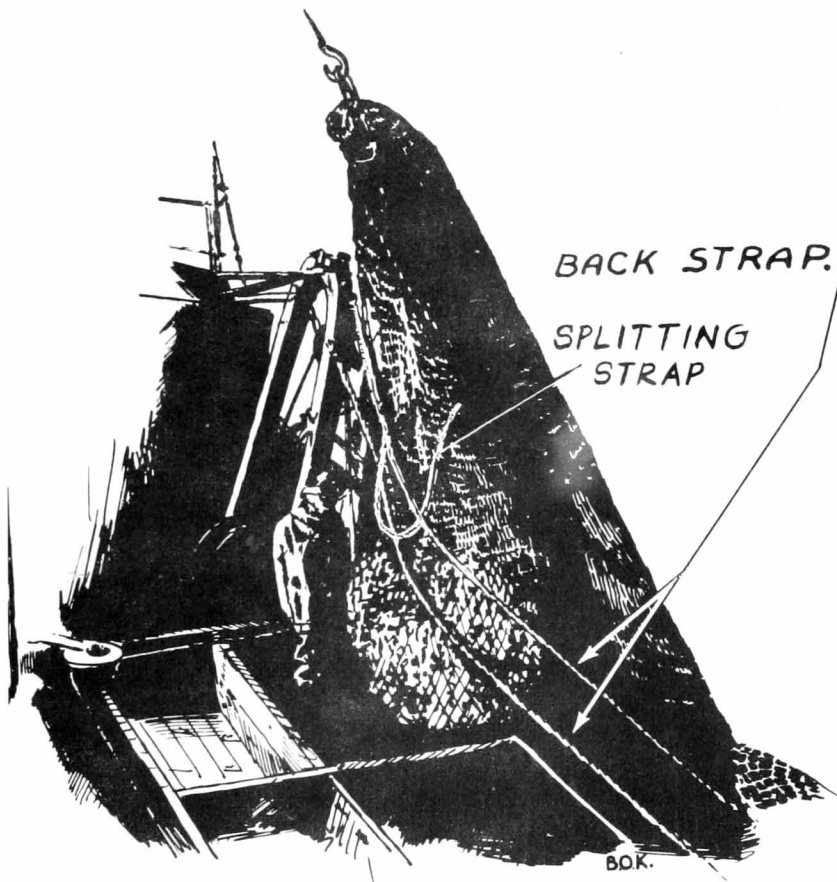

Fig. 20. Cod-End Held in Position over Fish Pens by Back Strap. Splitting Strap Is Used to Split Catches too Large for a Single Hoist.
1. A strap is fastened by two round turns on the codend and it is then hoisted on deck by a fish tackle running from the boom off the mast (fig. 20).